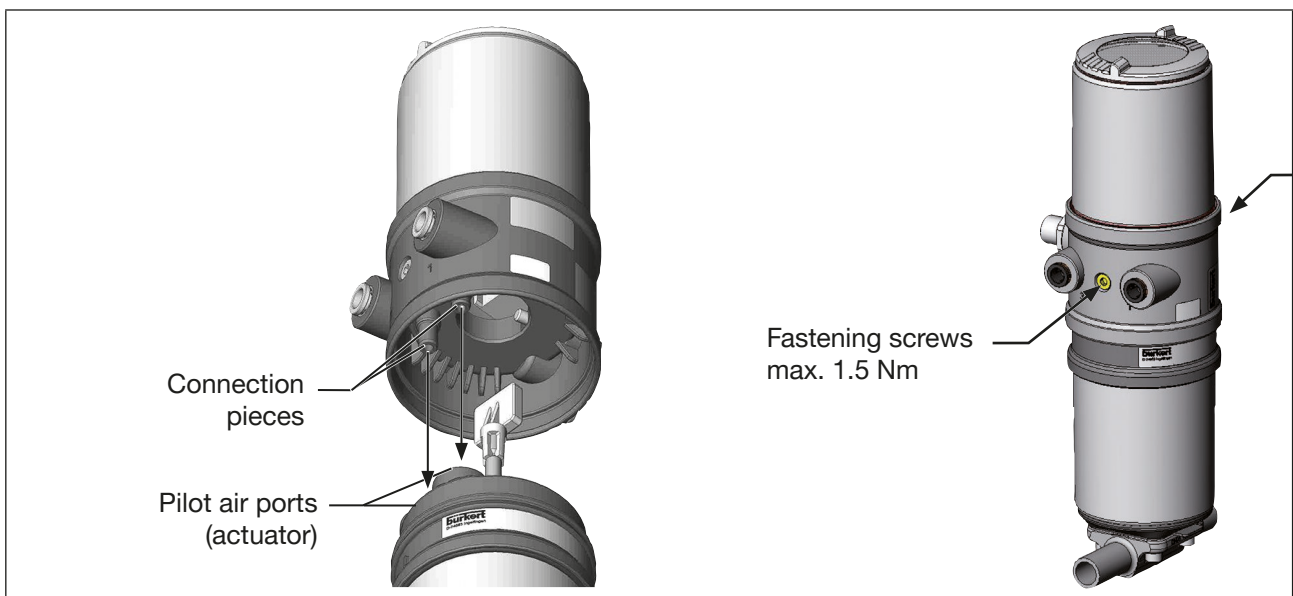

Figure 19: Installation of the positioner
2. the connection pieces of the positioner can be inserted into the pilot air ports of the actuator (see also "Figure 19").